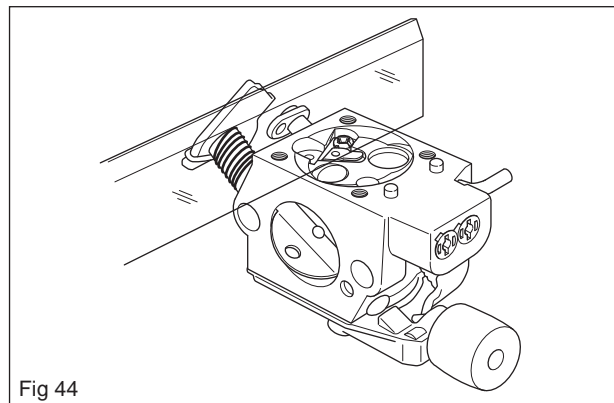

Fig 44
6. Check using a ruler or the like that the lever is level with the assembly plane on the cover. If necessary, the lever arm can be bent (see figure 44).